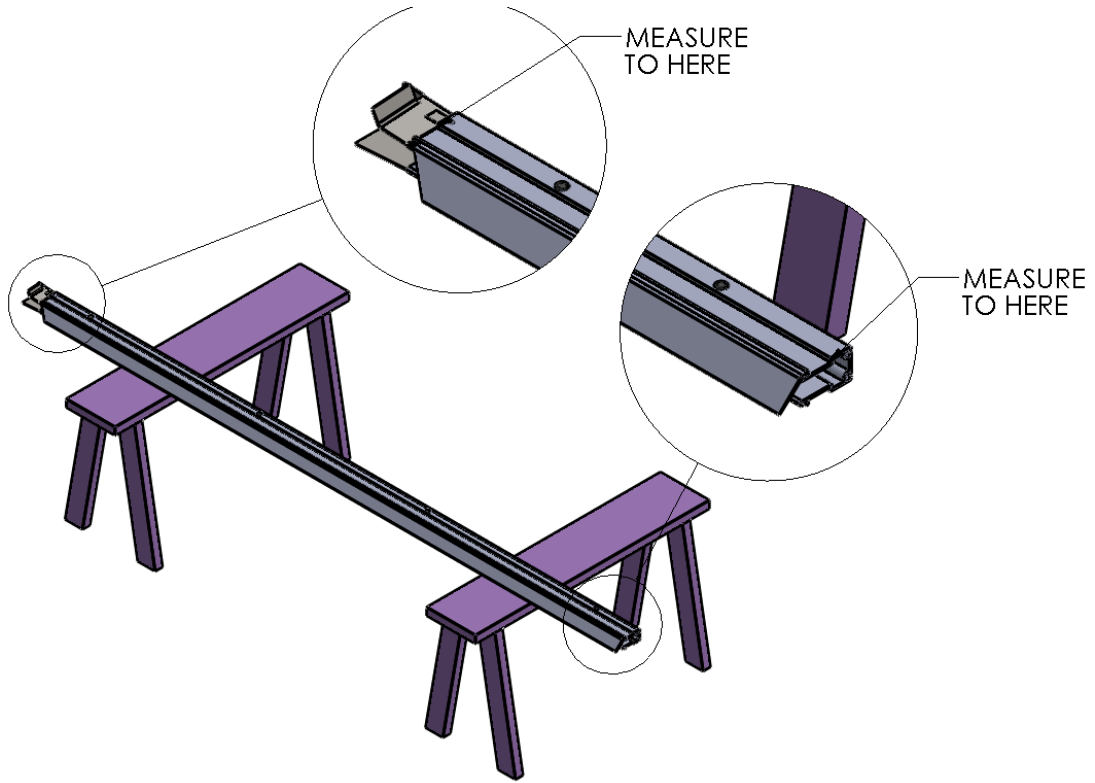
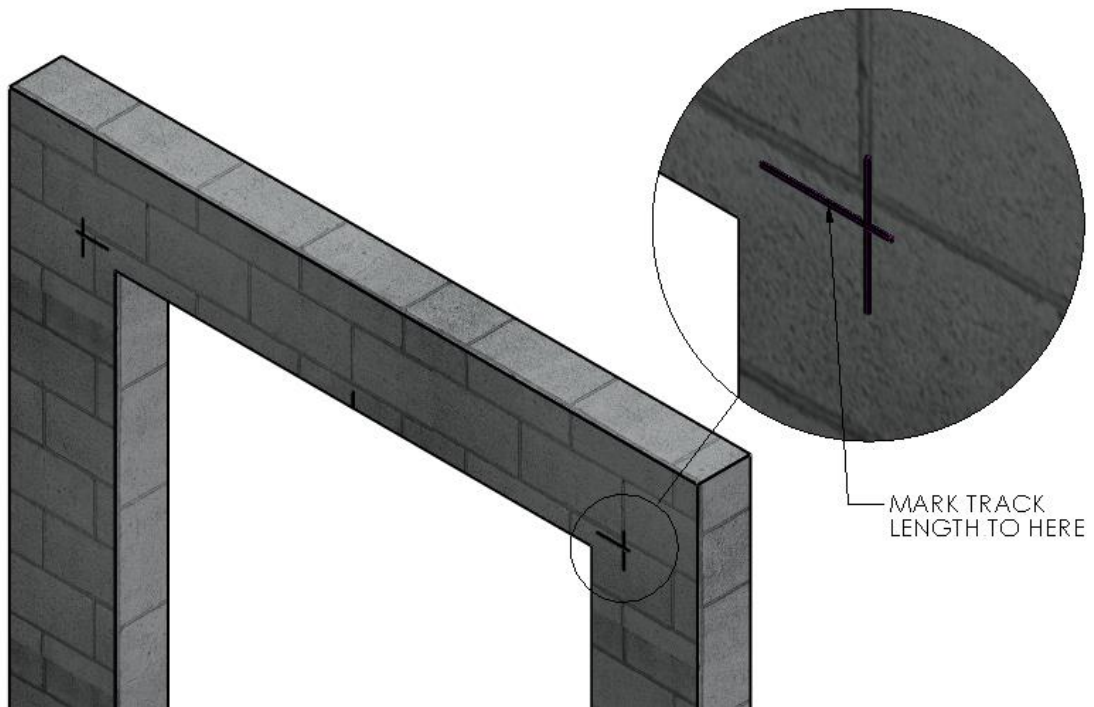

Figure 4 MEASURE TRACK HEIGHT
Figure 5 MARK TRACK HEIGHT
5. Set one of the Vertical Track Assemblies on your work surface and measure the length of the vinyl Track only. ADD 3-1/4" to this number and take note. This is the height dimension needed to mark the location of the bottom edge of the Header Mounting Brackets. With this number, add a horizontal line on each side of the opening that intersects the previously drawn vertical line marking the overall width of the roll assembly. (Figure 4 MEASURE TRACK HEIGHT) (Figure 5 MARK TRACK HEIGHT)
6. Using two (2) people, and two ladders at minimum, raise the Header Assembly to fit between, and above, your markings on the wall. Trace the insides of its oval mounting slots onto the wall mount surface (a Sharpe permanent marker works great for this). Be sure that that its bottom edge is on the height line, and that the outer edge is on your vertical overall width line.
7. Pre-drill through the centers of the traced locations for the mounting hardware, three (3) pilot holes on each side. Using adequate mounting screws or bolts (depending on your building/surface material) attach the header offset brackets to each side of the opening.